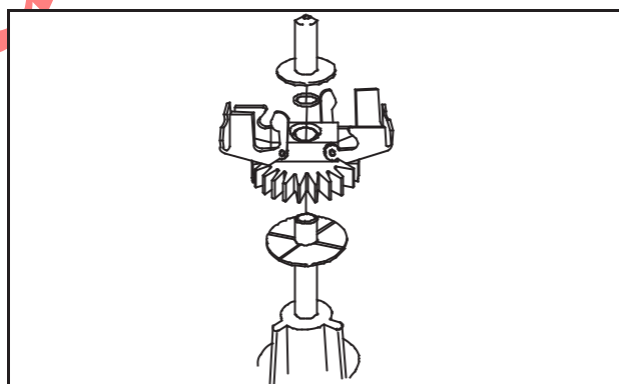

Fig. 12 - Check Governor Gear And Shaft
1. Check governor gear for burrs or nicks, Fig. 12.